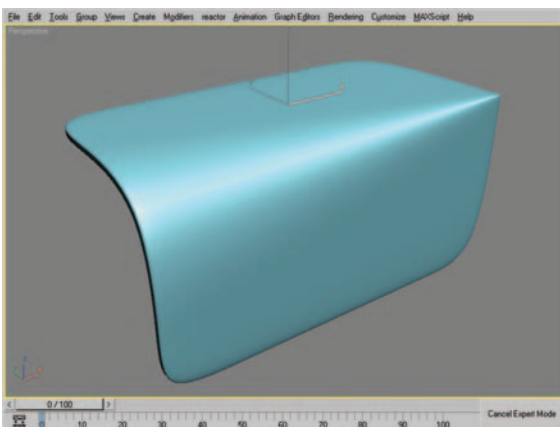

Figure 10.19 Final mesh after adjusting vertex positions to form a variable-radius fillet.
7. Notice that by varying the proximity of the vertices a variable-radius fillet has been formed. Take note of how the edge goes from a crisp configuration to a softer, rounder configuration. Figure 10.19 shows the final mesh with the variable-radius fillet.